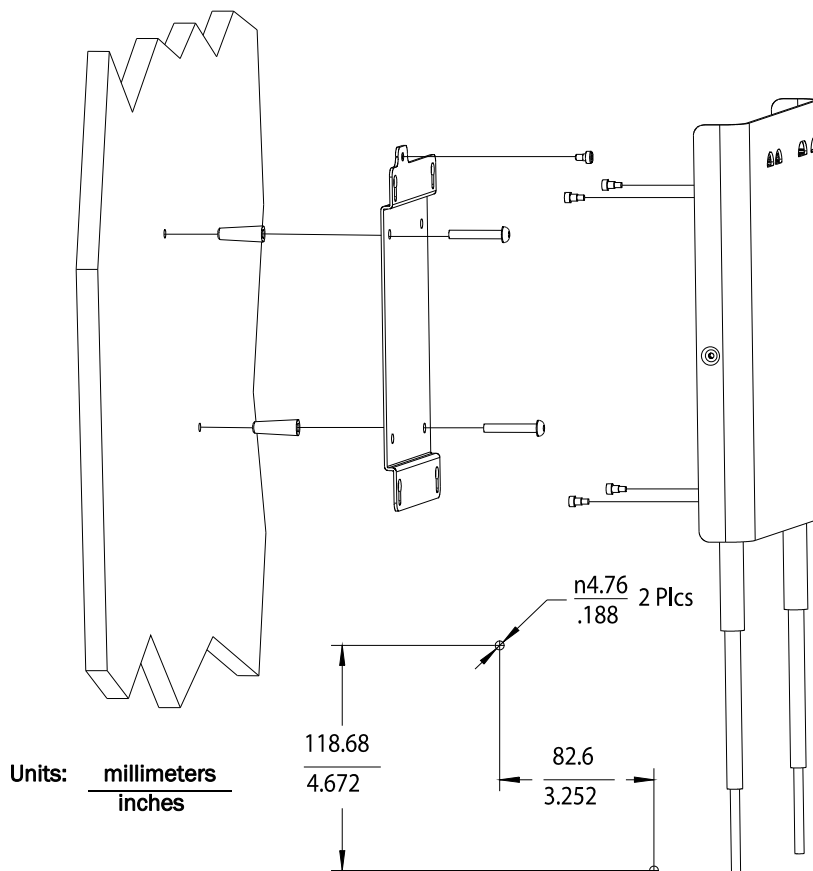

Figure 2-2: Mounting the IntelliVue Smart-hopping 1.4 GHz Core AP to a Wall (CA Earthquake Rated)
1. Using a 3/16-inch drill bit, drill two pilot holes 0.188 inches (5 mm) in diameter at the locations shown in Figure 2-2.
3. Secure the quick release wall plate to the wall by screwing a supplied #6 x 1 1/4 inch self-tapping screw through the wall plate into each screw anchor (or pilot hole) as shown in Figure 2-2.
4. Using a 5/64-inch (2 mm) Allen (i.e., hexagonal) wrench, secure the four supplied M3 X 0.5 hex-head shoulder screws to the back of the Core AP as shown in Figure 2-2. Torque-tighten each shoulder screw to 8-inch lbs.